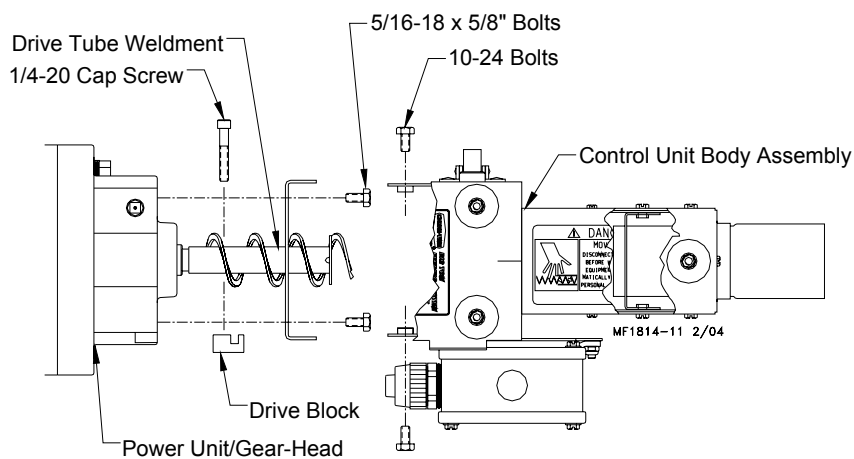

Figure 31. Control Unit Installation
1. Remove the four 5/16-18 x 5/8" bolts from the parts package and use them to bolt the Anchor Plate to the Power Unit. Install the Anchor Plate with the angled end pointing down, **see figure 31**.
2. Bolt the Control Unit Body Assembly to the Power Unit, using hardware supplied, **see figure 31**.
9. Mount the control unit on the end of the feeder line and secure with a tube clamp. **See Figure 31 (on page 23)**. The distance between the control unit pan and the last pan should be 5' (1.5 m) or less.